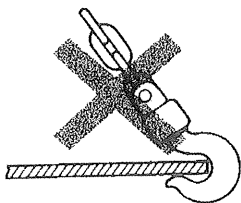
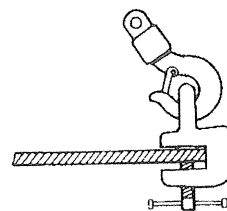

Figure 4 - Incorrect Attachment
Figure 5 - Correct Attachment
5. When hooking, the load must be applied squarely to the center of the hook and the hook must not come loose during operation. **NEVER USE THE HOOK DIRECTLY ON A LOAD** (See Figure 4). Use the attachments as shown in Figure 5.